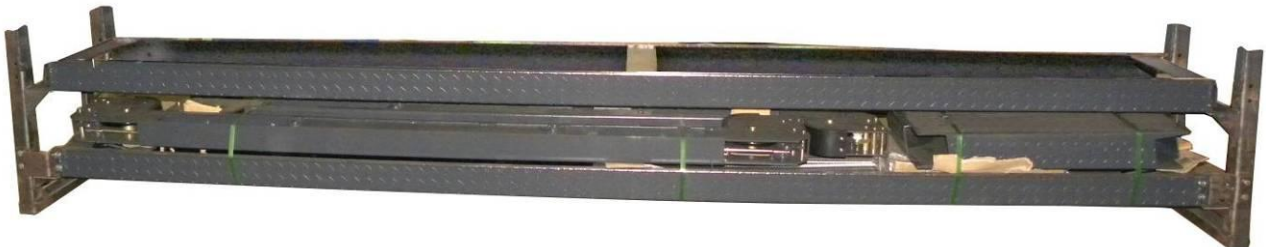

Fig. 7
3. Take off the drive-thru ramps and columns (See Fig.7).